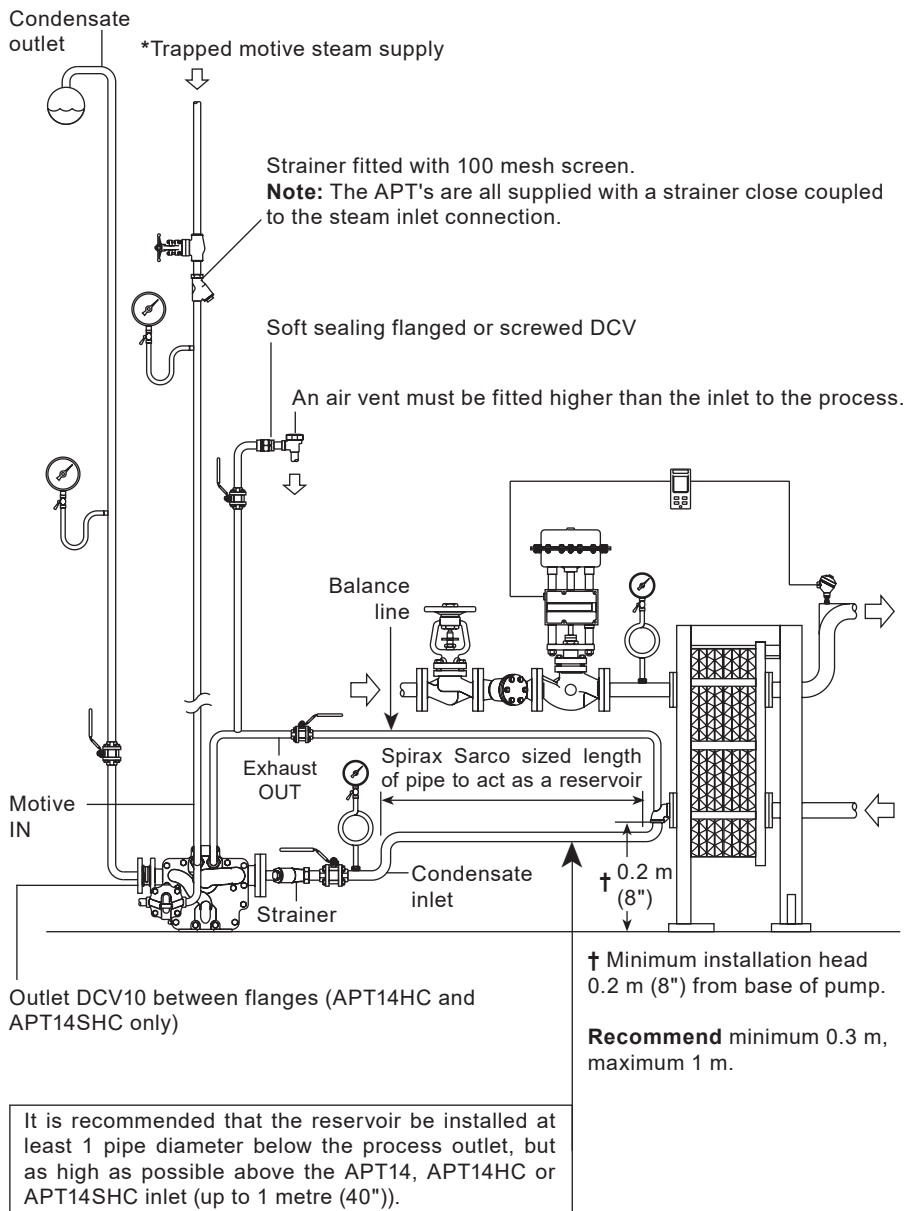

Fig. 11
The APT's have four connection ports. The DN40 (1½") - APT14 or DN50 (2") - APT14HC and APT14SHC port should be connected to the outlet of the equipment being drained. The DN25 (1") - APT14 or DN40 (1½") APT14HC and APT14SHC port should be connected to the condensate return line. Flow arrows indicate the correct direction of flow. The DN15 (½") port marked (S) should be connected to a trapped motive steam supply. **\* It is important to ensure this line is drained of condensate at all times using a Spirax Sarco steam trap and filtered using a 100 mesh strainer as fitted (see Figure 11).** The screwed DN15 (½") port marked (E) should be balanced back as close as possible to the condensate outlet of the equipment. This balance line must always be connected to the top of the condensate pipe, as shown in Figure 11. **Note:** If a thermal cut out device has been installed to protect the heat exchanger from excess temperature, then it is important this is mounted upstream of the steam control valve and the take-off point for the motive steam supply to the APT14, APT14HC or APT14SHC.